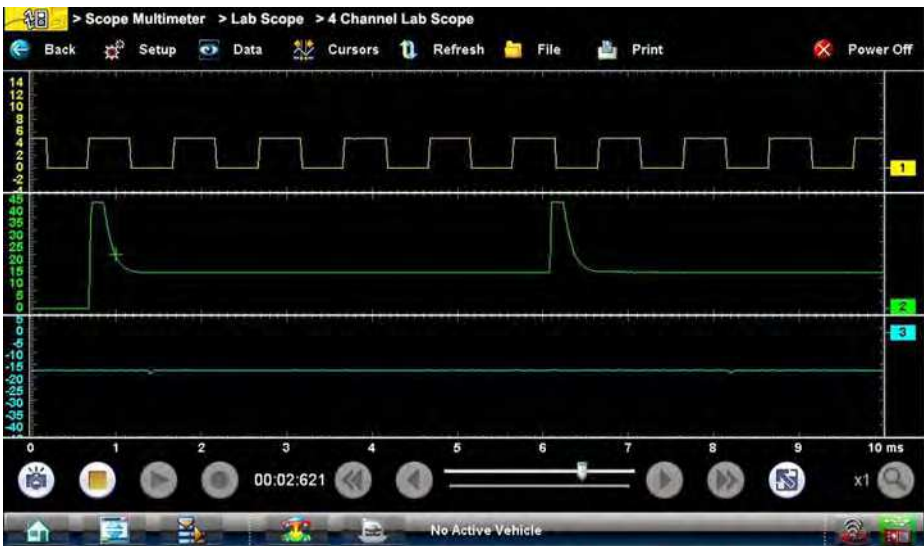

Figure 8-26 Sample 3 Windows display
- **3 windows**—shows three traces, one below another, on the same screen (Figure 8-26).